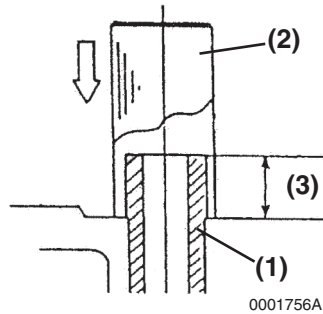

Figure 6-63
- Finish installing the valve guides (Figure 6-63, (1)) into the cylinder head to the proper height (Figure 6-63, (3)) using the valve guide installation tool (Figure 6-63, (2)). See *Intake / Exhaust Valve and Guide on page 6-7*.